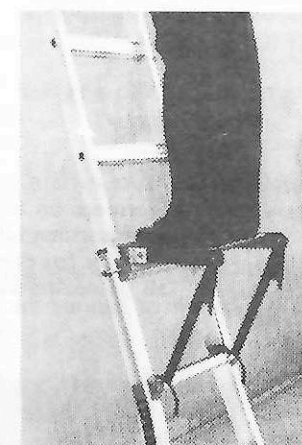

Figure D-6
6. Check to ensure platform is securely in place before putting full weight on it. (FIGURE D-6).